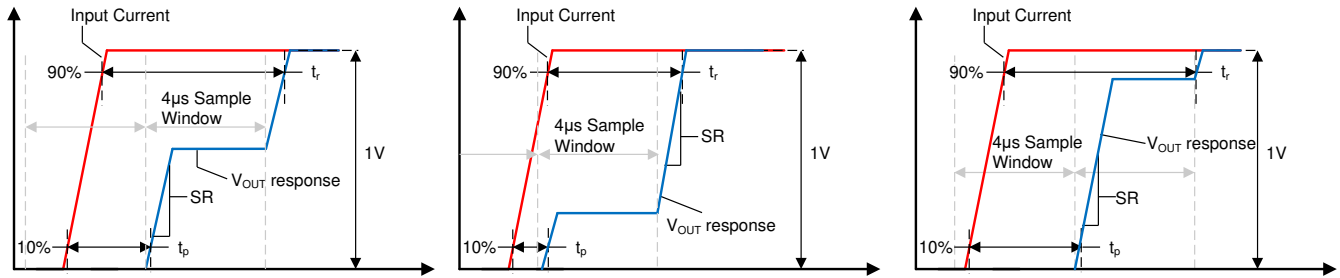

Figure 7-3. Small Current Input Step Transient Response
Slew rate (SR) is defined as the V_{OUT} rate of change for a single integration step output transition, as shown in Figure 7-3. Because the device often requires two sampling windows to reach a full 90% settling of the final value, this slew rate is not equal to the 10%-90% transition time for the full output swing.
Propagation delay is the time period between the input current waveform reaching 10% of the final value and V_{OUT} reaching 10% of the final value. This propagation delay is heavily dependent upon the alignment of the input current step and the sampling period of the TMCS1100, as shown for several different sampling window cases in Figure 7-3.
Response time is the time period between the input current reaching 90% of the final value and the output reaching 90% of the final value, for an input current step sufficient to cause a 1V transition on the output. Figure 7-3 shows the response time of the TMCS1100 under three different time cases. Unless a step input occurs directly during the beginning of one sampling interval the response time includes two sampling intervals.